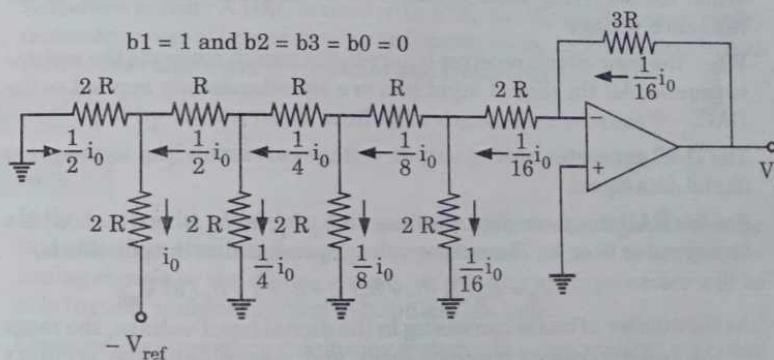

Fig. 4.15.5.
7. Finally, the circuit is shown in Fig. 4.15.5 corresponding to the case where  $b_0 = 1$  and  $b_2 = b_3 = b_1 = 0$ . The output voltage is  $V_o = 3R(i_0/16) = V_{ref}/16$ .